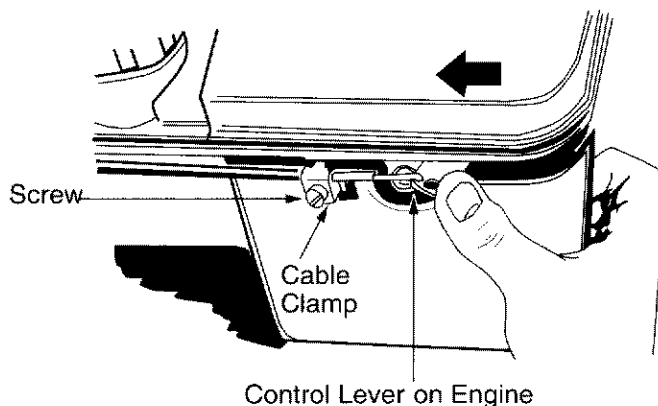

FIGURE 17
- Remove the screw shown in Figure 17. Remove the cable clamp from the cable.